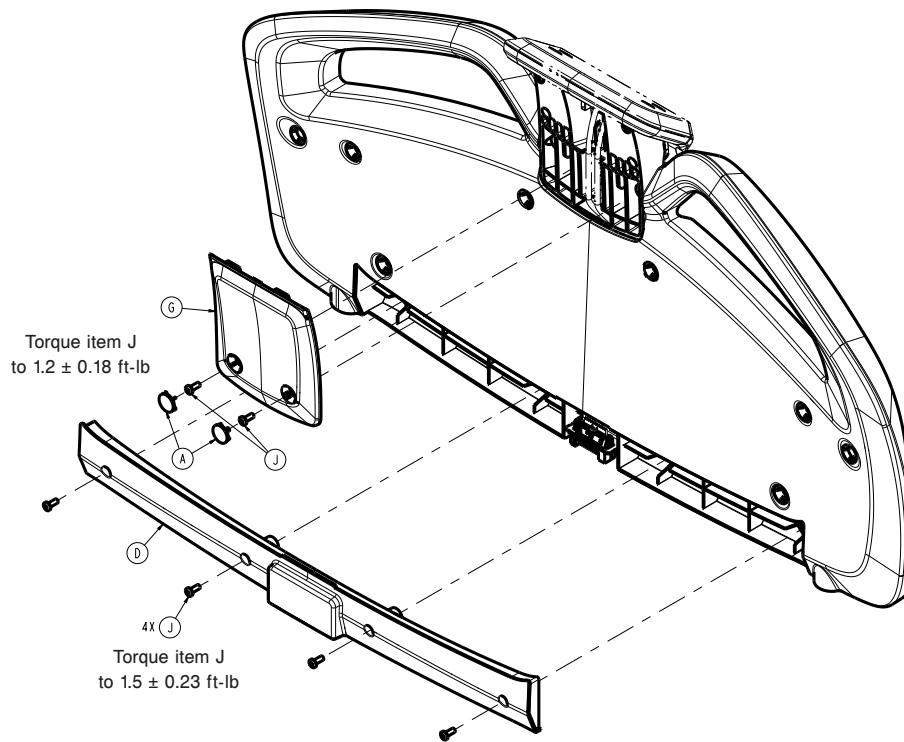

Figure 35 – Footboard housing
5. Using a pick, remove the two screw covers (A) from the back side of the footboard display housing (Figure 35). Discard the screw covers.
6. Using a T25 Torx driver, remove the two screws (J) that secure the display housing cover (G) to the footboard (Figure 35). Remove the display housing cover. Save the screws and display housing cover.